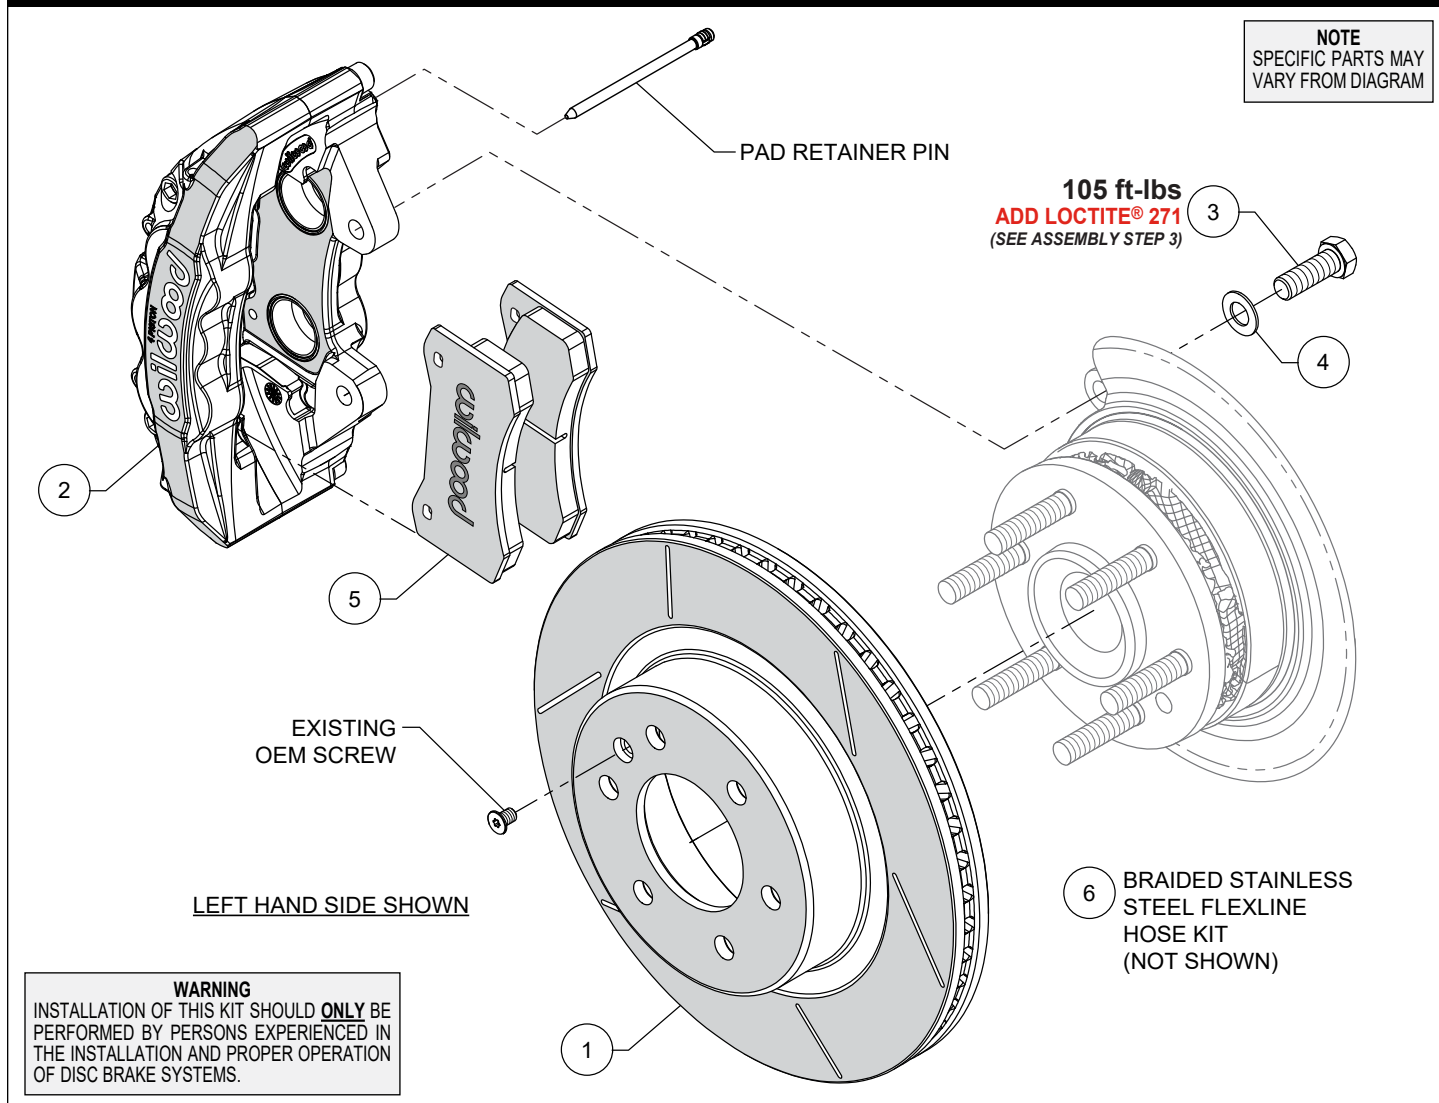

Figure 1. Typical Installation Configuration
NOTE: Numbers in parenthesis refer to the parts list and Figure 1 on the preceding pages.
STEP 1 Slide the rotor (1) onto the hub. **NOTE:** The rotor must fit flush against the hub flange or excessive rotor run out may result. Install the existing OEM rotor locator screw to keep the rotor assembly in place while continuing with the installation, Figure 1 and Photo 1.
STEP 2 Remove the two pad retaining pins from the caliper (2), Figure 1. Insert the brake pads (5) into the caliper from the bottom, with the friction material facing the rotor, as shown in Photo 2. Secure the brake pads in place with the pad retaining pins, Photo 3 and Figure 1. **CAUTION:** Ensure pad retaining pins are completely engaged into caliper. It is recommended to use a small flat punch and hammer to tap the pins in until they are fully seated.
STEP 3 Mount the caliper (2) onto the OEM caliper mounting bosses of axle using bolts (3) and washers (4), as shown in Figure 1. Apply red *Loctite*® 271 to bolt threads, and torque to value shown in Figure 1.